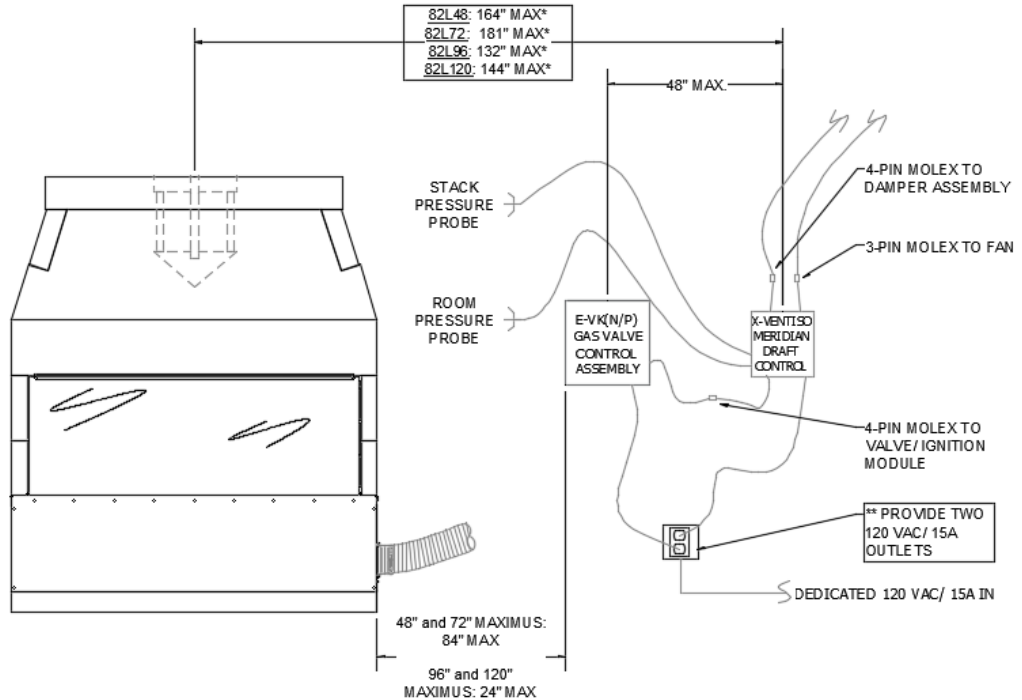

FIGURE 24
- The location of the Meridian Control Panel is dependent upon the fireplace model and must be within the values shown in **(Figure 24)**. The distances shown are as measured horizontally from the fireplace flue-outlet.
NOTE: the Isoflames Linear Burner’s gas valve control box location is also dependent upon the fireplace model/ burner size. It must be located within 84” of the sidewall of the firebox for the 48” and 72” Maximus Linear and within 24” for the 96” and 120” Maximus Linear **(Figure 24)**.
- Two 120 VAC / 15A outlets must be provided at the chosen location on a dedicated circuit; one for the Meridian Control Panel, the other for the Gas Valve Control Box . These outlets must be within the extent of the 72” power supply cables of the Meridian Control Panel and the E-VK(N/P) Gas Valve Control assembly **(Figure 24)**.
- 3) Connect the top port of the Meridian Control Panel's pressure ports with the supplied tubing to the "Stack Pressure" vent probe (**Figure 24, 25 & 27**). This will be connected to the chimney at a location 12" above the anchor plate.
- 4) Connect the lower port of the Meridian Control Panel's pressure ports with the supplied tubing to the "Room Pressure" vent probe (**Figure 24, 26 & 27**). The other end will be connected in a suitable location in the room in which the fireplace is installed. This location must be in the same pressure zone as the fireplace opening, and within reach of the supplied tubing's connection to the Meridian Control Panel. The tubing measures 20ft.